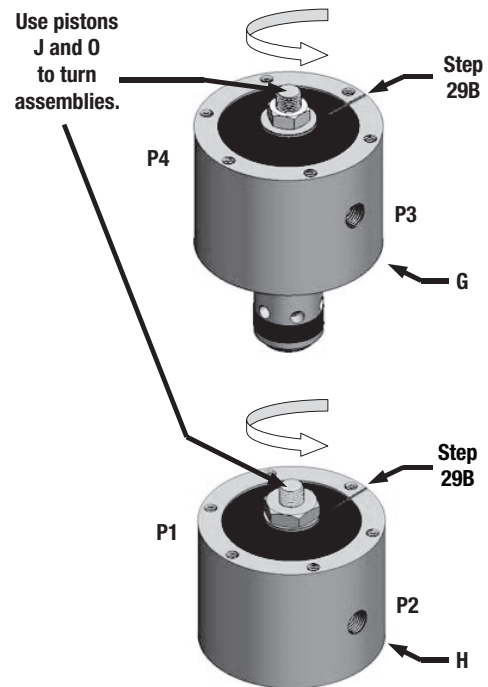

Figure 12
- Mark the Diaphragms (R) and Bodies (G and H) with a line, as shown in Figure 12.